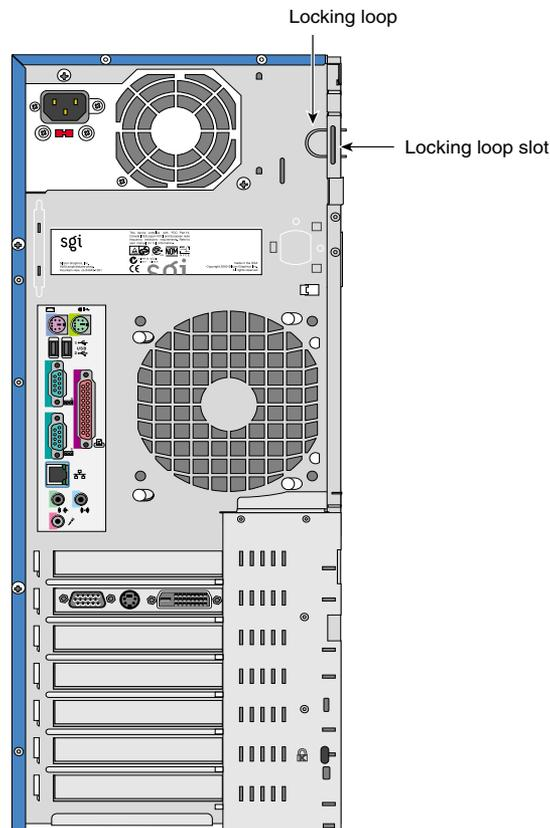

Figure 2-28 Location of Locking Loop
2. Locate the locking loop. See Figure 2-28 for the location of the locking loop.
4. Locate the slot facing the rear of the chassis. See Figure 2-28 for the location of the slot.